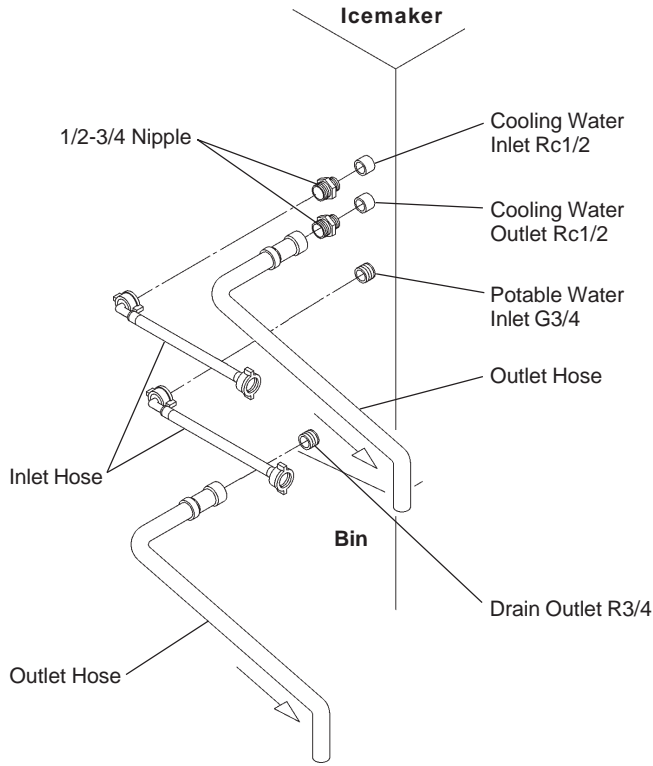

Fig. 11
[b] Connections according to regulations other than WRC by utilising accessory hoses (Fig. 11)
- 2) For Condenser connections, use supplied accessory hoses and make the same connections as 1) to 3) in [a] above to the free end of 1/2-3/4 nipples as indicated (Fig. 11).